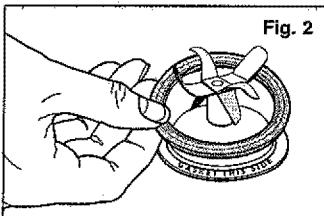

Fig. 2
2. Turn blender jar upside down. Place the gasket on the blade assembly [Fig.2].